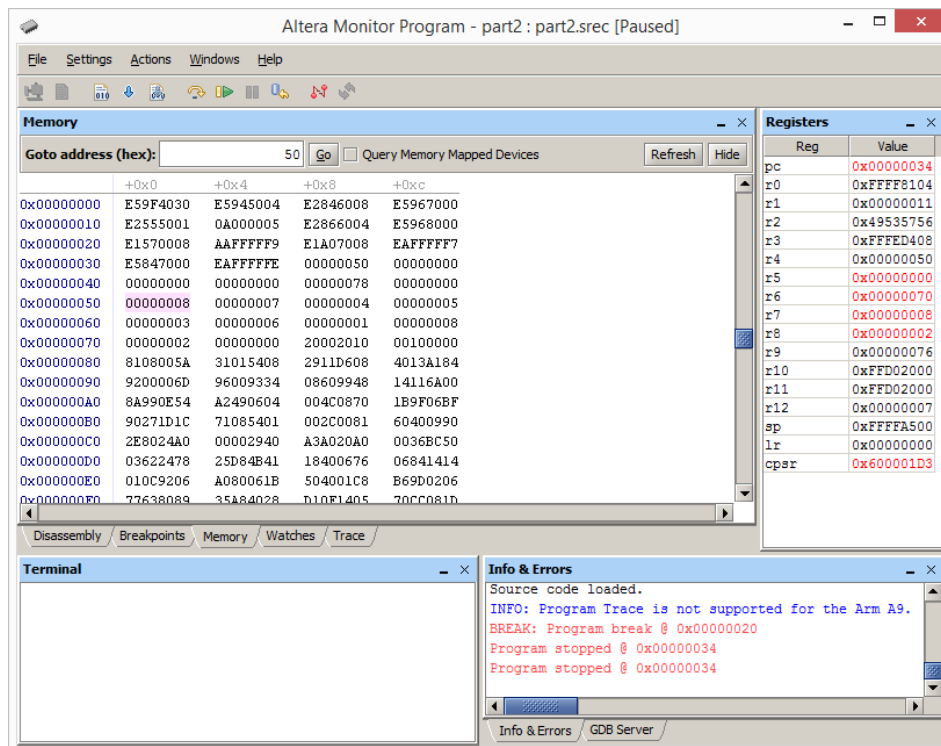

Figure 12: Displaying the result in the memory tab.
5. Execute the program. When the code is running, you will not be able to see any changes (such as the contents of registers or memory locations) in the Monitor Program windows, because the Monitor Program cannot communicate with the ARM processor while code is being executed. But, if you pause the program then the Monitor Program windows will be updated. Pause the program using the icon  and observe that the processor stops within the endless loop **END: B END**. Note that the largest number found in the sample list is 8 as indicated by the contents of register R0. This result is also stored in memory at the label **RESULT**. As discussed above, the address of the label **RESULT** for this program is 0x00000050. Use the Monitor Program's Memory tab, as illustrated in Figure 12, to verify that the resulting value 8 is stored in the correct location.